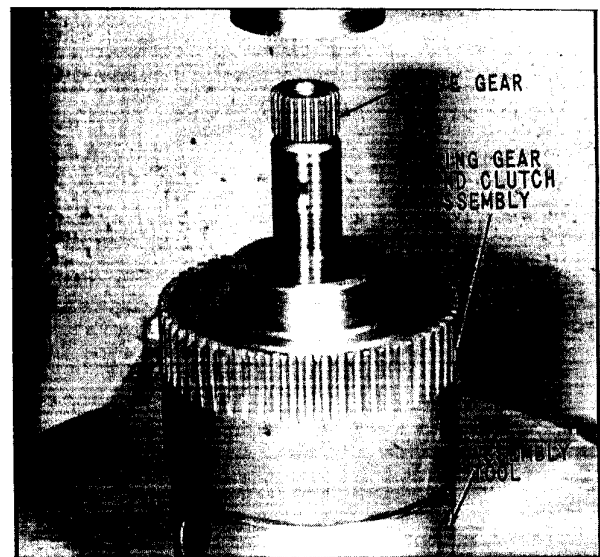

Fig. 48 Assembling Ring Gear and Clutch Assembly on Drive Gear
38. Lower ring gear and clutch assembly until internal teeth of clutch plates begin to engage teeth on forward clutch hub. Rotate ring gear to align teeth of plates with teeth on clutch hub. Do not force ring gear, as damage to teeth on plates will result. When ring gear and clutch are in correct position, rear end of ring gear should be against the assembly tool or "flush" with the rear thrust face of drive gear, as shown in (Fig. 48). Do not remove drive gear and clutch assembly from assembly tool or move drive gear forward until steps 39, 40 and 41 are completed. Any movement of the drive gear forward will result in the clutch plates becoming disengaged with clutch hub and sealing rings moving out of position.